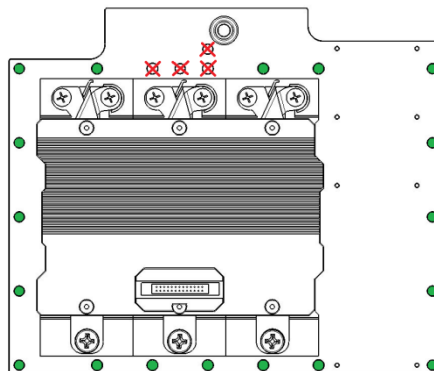

Figure 23 – Inverter Screw Locations
6. Install the new M6X30 screws into the Inverter assembly with the exception of the four (4) M6X35 SCR Manifold screws and carefully lower the assembly onto the compressor housing. Use the installed screws to properly line up the inverter. Refer to Figure 23 (Inverter Screw Locations).